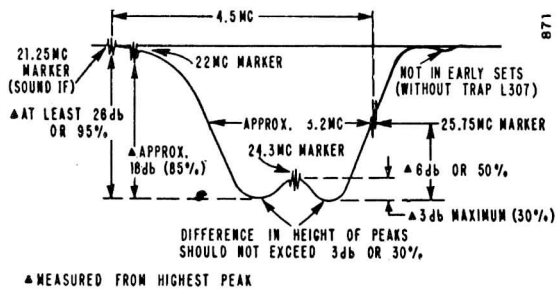

Figure 28. IF Response Curve.
- Check curve obtained against the ideal IF response curve shown in figure 28. Since it is not always possible to get ideal curves, it should be noted that the height of opposite peaks should be within 3db or 30% of each other. The dip or valley in the center of the curve should not be greater than 3db or 30% down from the highest peak of the curve. Check video and sound IF carrier points by means of marker generator. It is important that marker pips be in the proper location on the response curve. The 25.75 MC marker, should be 6db below the highest peak (50% point on the high frequency side of the curve). The 22 MC marker should be at the opposite side of the response curve, located approximately 18db (85%) below the highest peak. The 21.25 MC marker should be located at least 26db (95%) below the highest peak, and may or may not be visible.
If the procedure given has been carefully followed and the response curve obtained differs greatly from the curve shown in figure 28, repeat the IF Amplifier Alignment, making sure generator frequencies are precise and adjustments are accurately made.